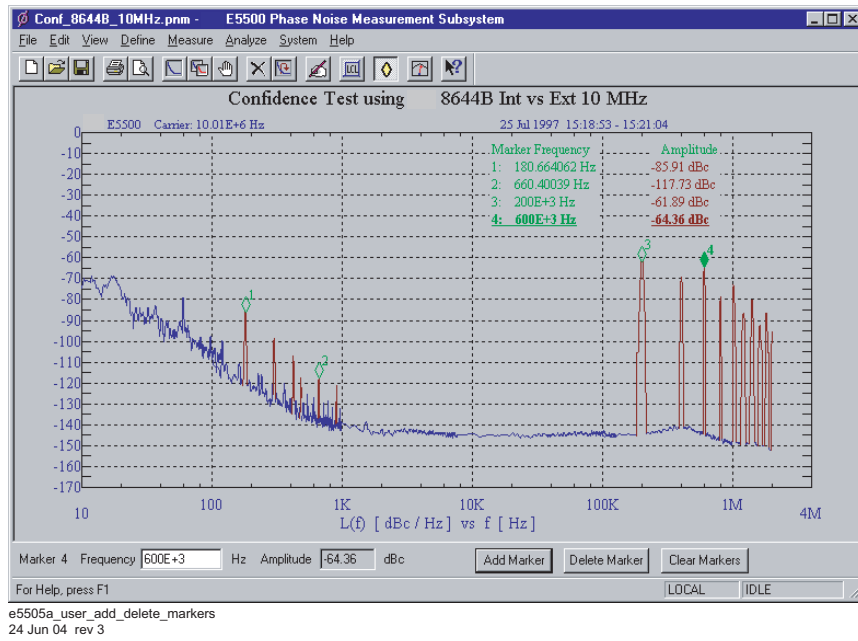

Figure 265 Add and delete markers
- 2 To remove the highlighted marker, click the **Delete** button. You may add as many as nine markers. See Figure 265 on page 331.